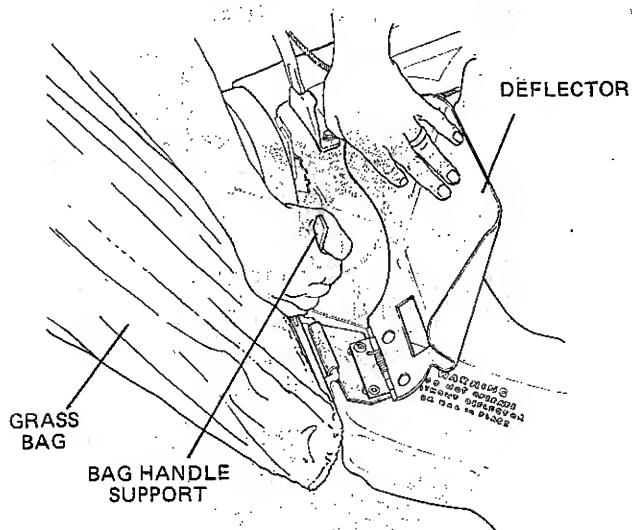

Figure 3
3. Using bag support handle attach grass bag to clip as illustrated in Figure 3. If the grass bag is not to be used, mount deflector without the clip using the same attaching parts. Mount deflector with lockwashers and nuts under housing.